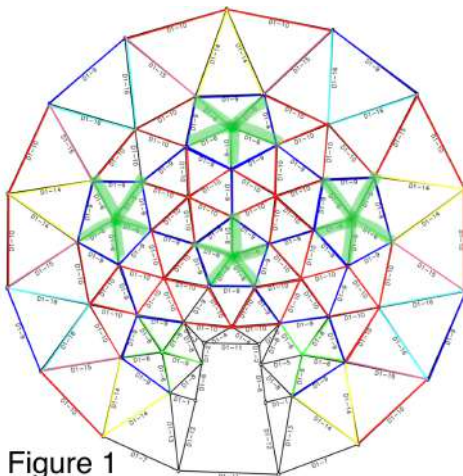
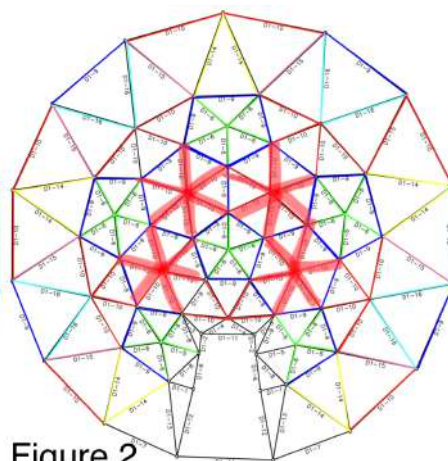

Figure 1
Figure 2
- There are four pentagons (5-pointed stars) that use only #6 struts (Figure 1)
- There are four hexagons (6-pointed stars) that use only #10 struts (Figure 2)
- Recall there are four pentagons (5-pointed stars) that use only **#6 struts** (**Figure 1**) and four hexagons (6-pointed stars) that use only **#10 struts** (**Figure 2**)
- NOTE: the fourth 5-pointed star mentioned above is located at the very top of the dome (**Figure 1**). These pipes will be attached individually as the last step of the fifth layer.